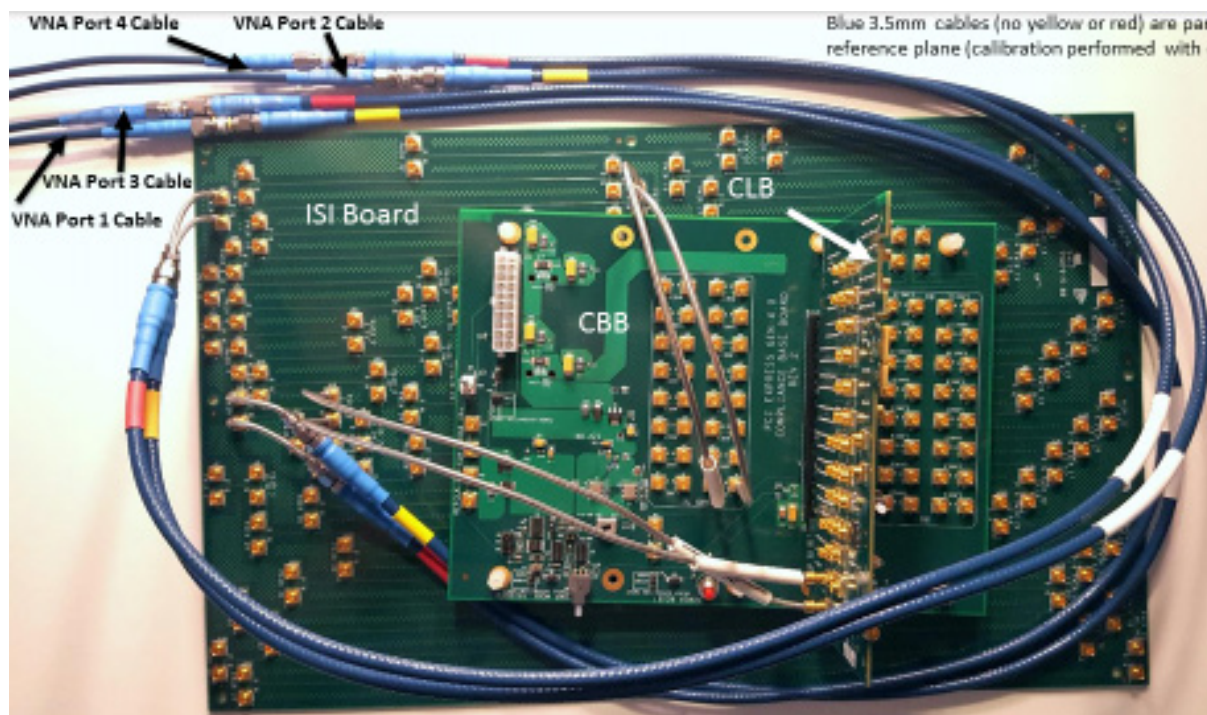

Figure 12. System RX CAL (Full with Cables)
- Full calibration Channel (see Figure 12)